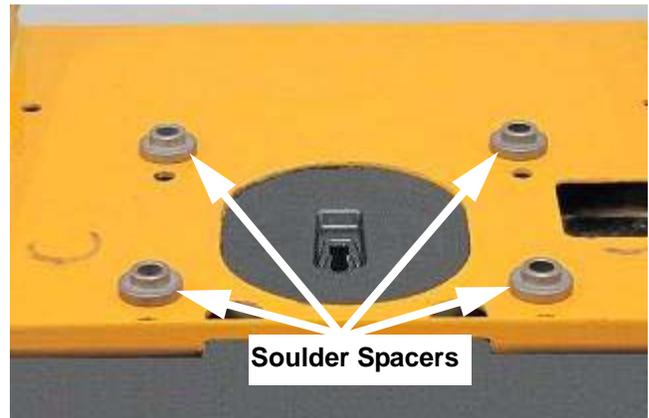

FIGURE 19
- 39. Place the seat plate on top of the four (4) spacers.
- 40. Install the four (4) Ref. #2 (738-0372B) shoulder spacers with the shoulder side up and aligned with the hole of the (750-03592) spacer as shown in Figure 19.